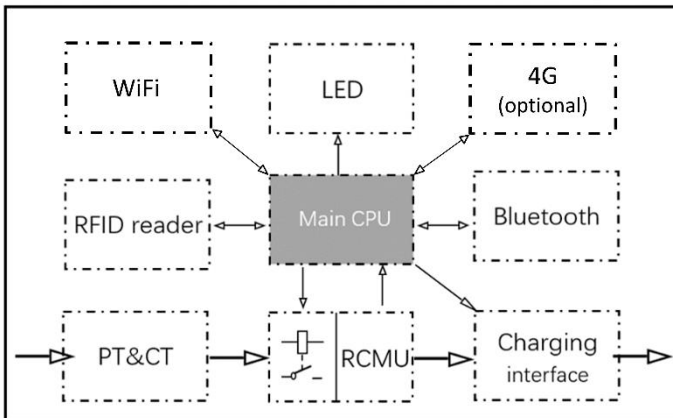

Fig. 4-2 Block diagram of INJET ECO
- The block diagram of INJET ECO AC EV charging station is shown as Fig. 4-2.